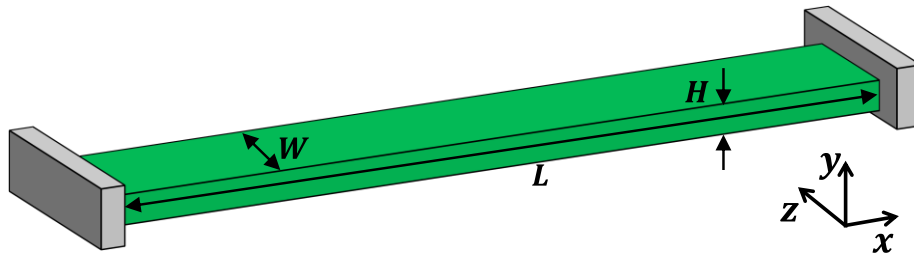

Figure PS1-5
3. The general equation for transverse free vibrations of a prismatic beam, such as shown in Figure PS1-5, can be expressed as